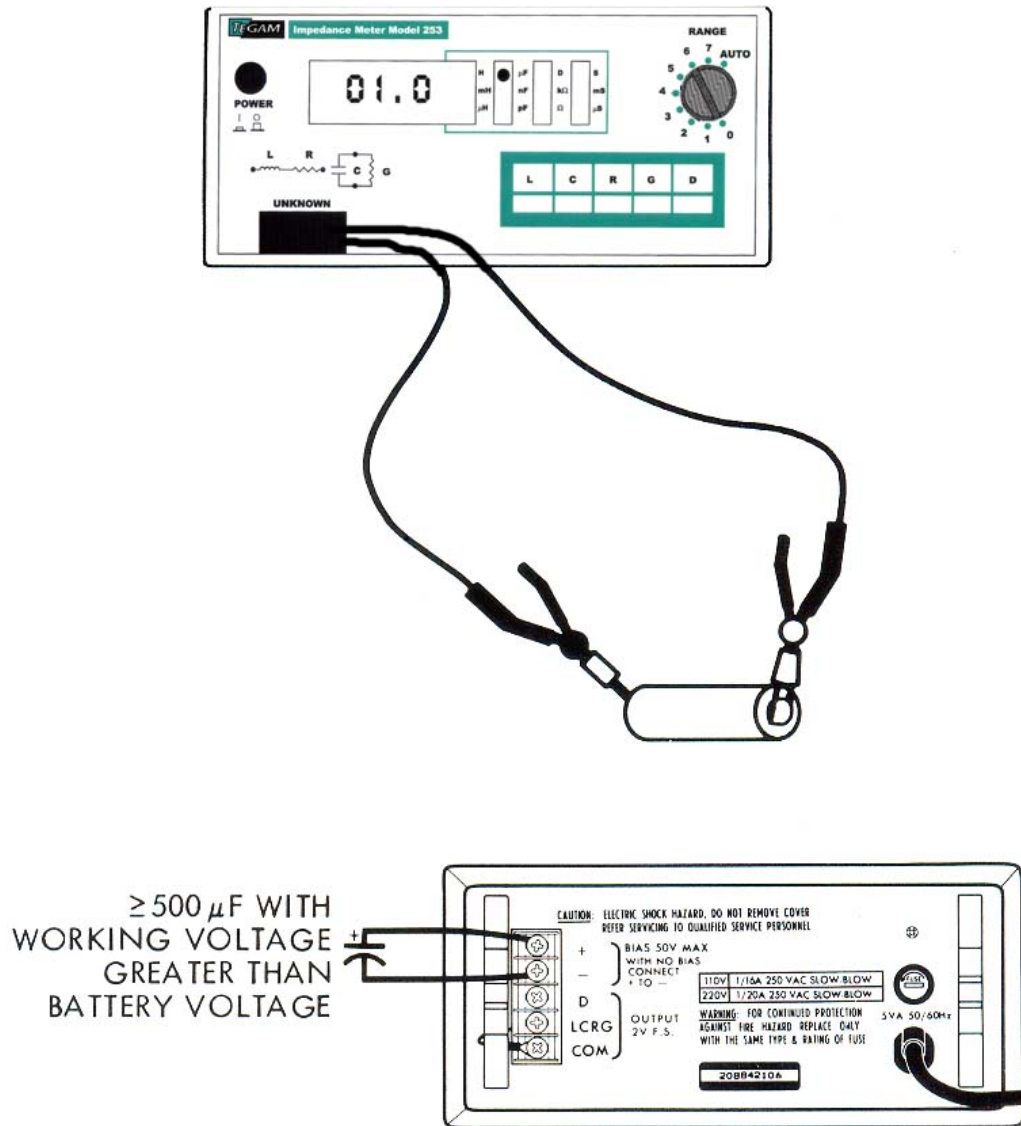

Figure 2-14. Measuring Battery Impedance
3. Connect a 500 μF (or larger) capacitor, whose working voltage is greater than the rated voltage of the battery, to the bias terminals (see Figure 2-14). Observe correct polarity when connecting the capacitor.
4. Connect the test leads with the red hinge-spool to the positive battery terminal and the black hinge-spool to the negative (see Figure 2-14).
The Ls function must be used to measure the series capacitance of a battery. Instrument set up is the same as for Rs measurements (Figure 2-14). A negative reading will be shown, and the following equation must be used to convert the "-Ls" reading to "+ Cs" values: